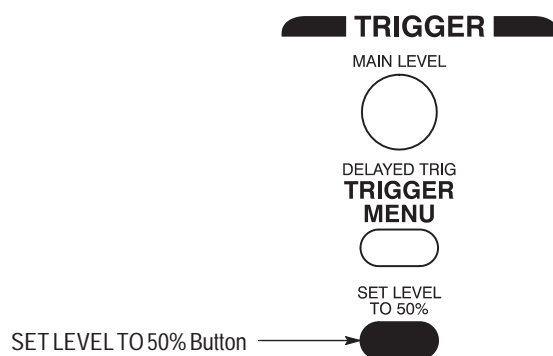

Figure 2-4: SET LEVEL TO 50% Button
4. Press **SET LEVEL TO 50%** (see Figure 2-4) to be sure the oscilloscope triggers on the input signal.